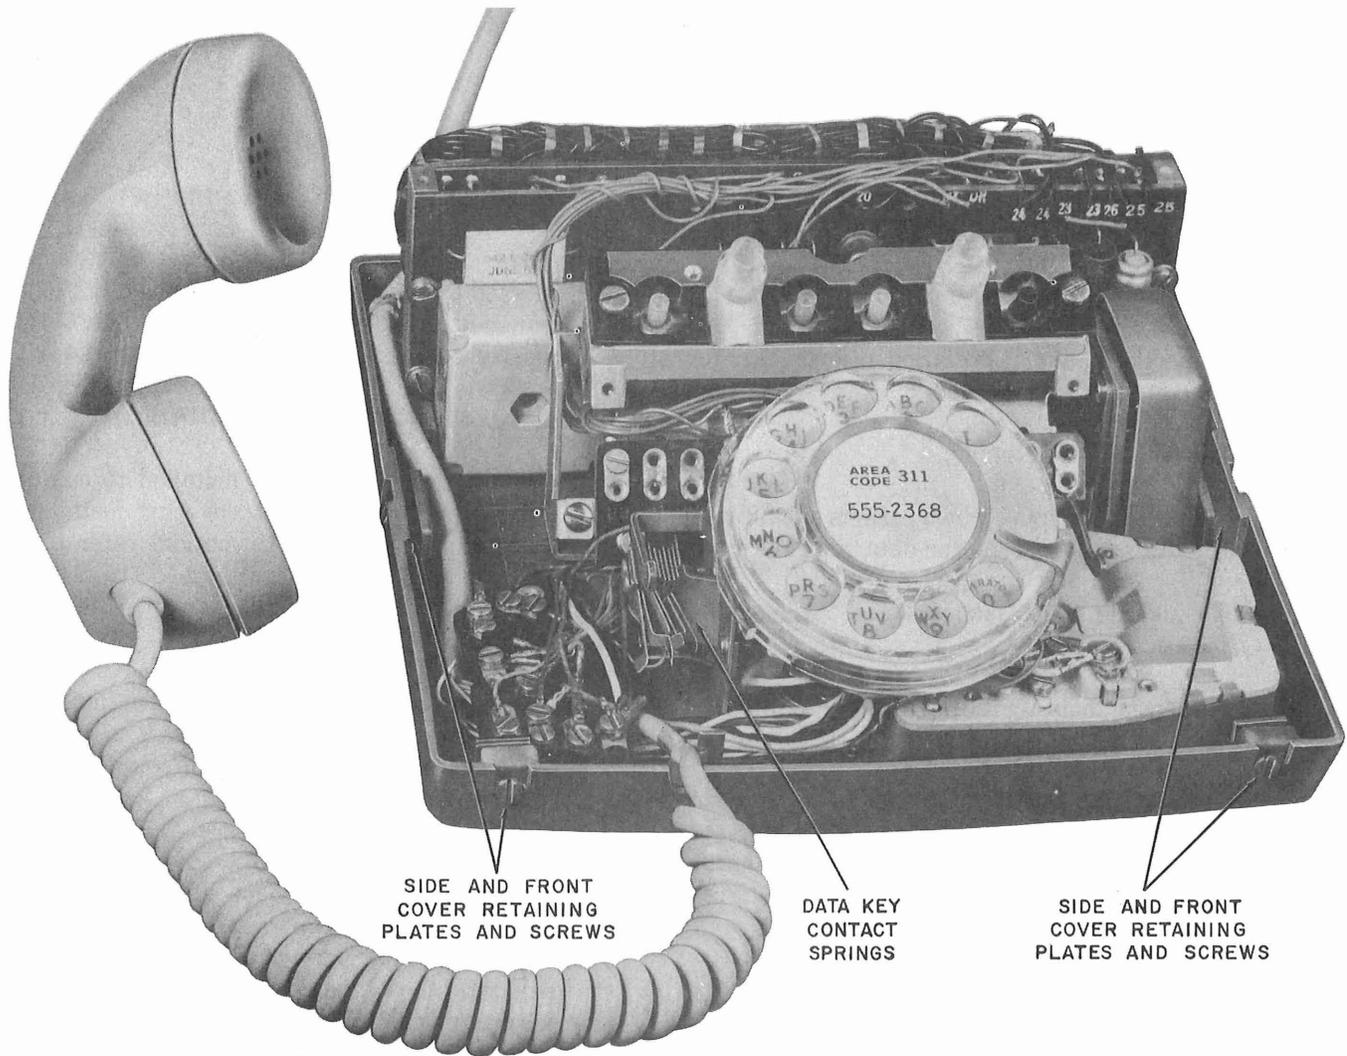
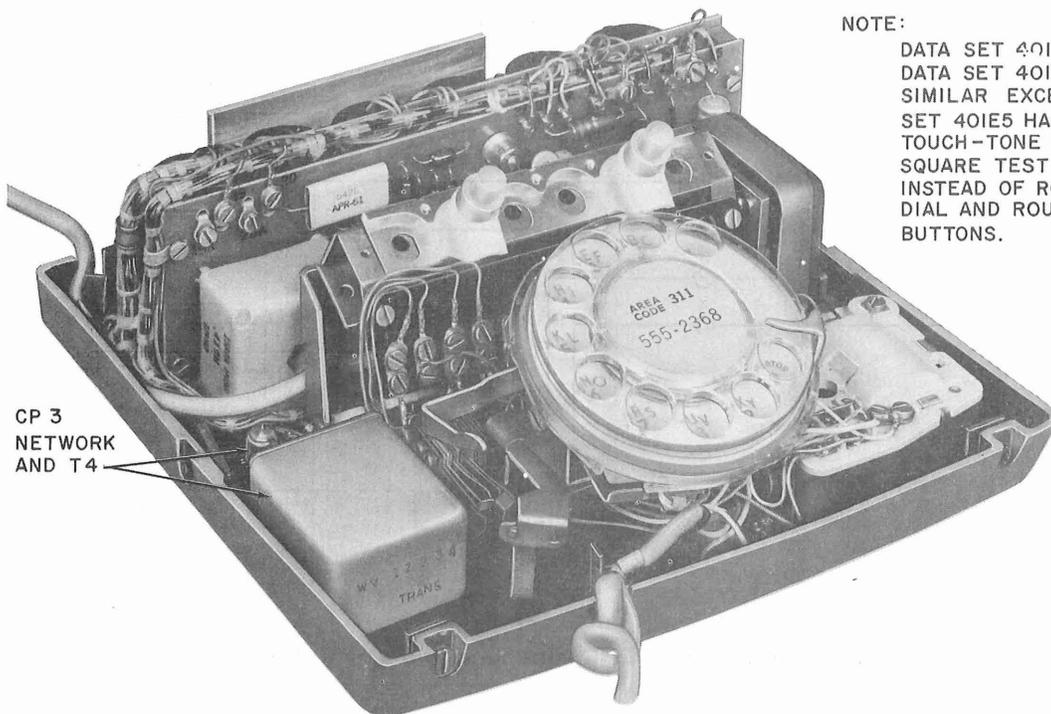

Fig. 1—Data Set 401E1—Front Interior View
Fig. 2—Data Set 401E3—Front Interior View
3.02 ♦ **Cover Removal:** Six cover screws are located around the base of the set; two at the rear, two at the front, and one at each side. To remove the rear cover, loosen the screws at the rear and at each side and lift up cover. After the rear cover is off, the front cover may be removed. Loosen the two remaining screws and lift up cover. A front view of data set 401E1 with both covers removed is shown in Fig. 1. A front view of data set 401E3 or 401E5 with both covers removed is shown in Fig. 2.